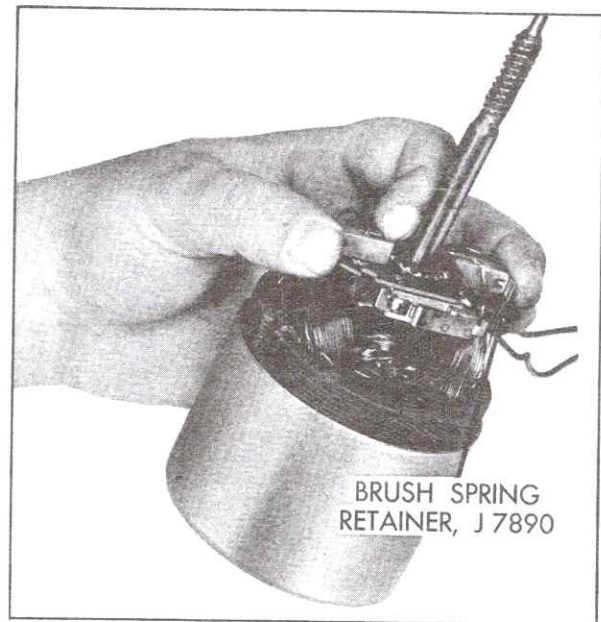

Fig. 12-28 Separating Brush Plate
8. Holding the opposite brush from that retained in step 7, carefully lift the brush plate off the mounting legs far enough to clear the armature commutator, Fig. 12-28.